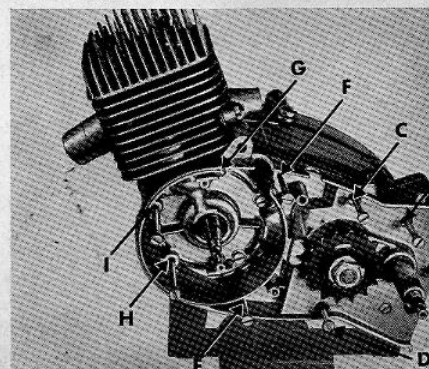

Fig. 87
**) Only fitted to engines of type 281, where it is located between I and G (fig. 87).